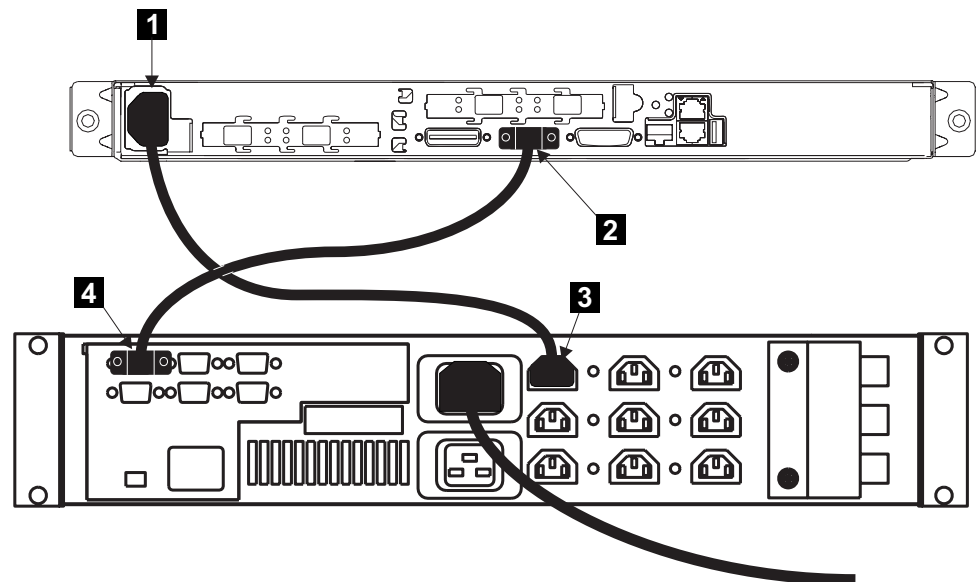

Figure 50. Connecting the SAN Volume Controller 2145-4F2 power cable to the 2145 UPS
1. At the back of the SAN Volume Controller 2145-4F2, plug a power cable into the power connector **1**. See Figure 50.